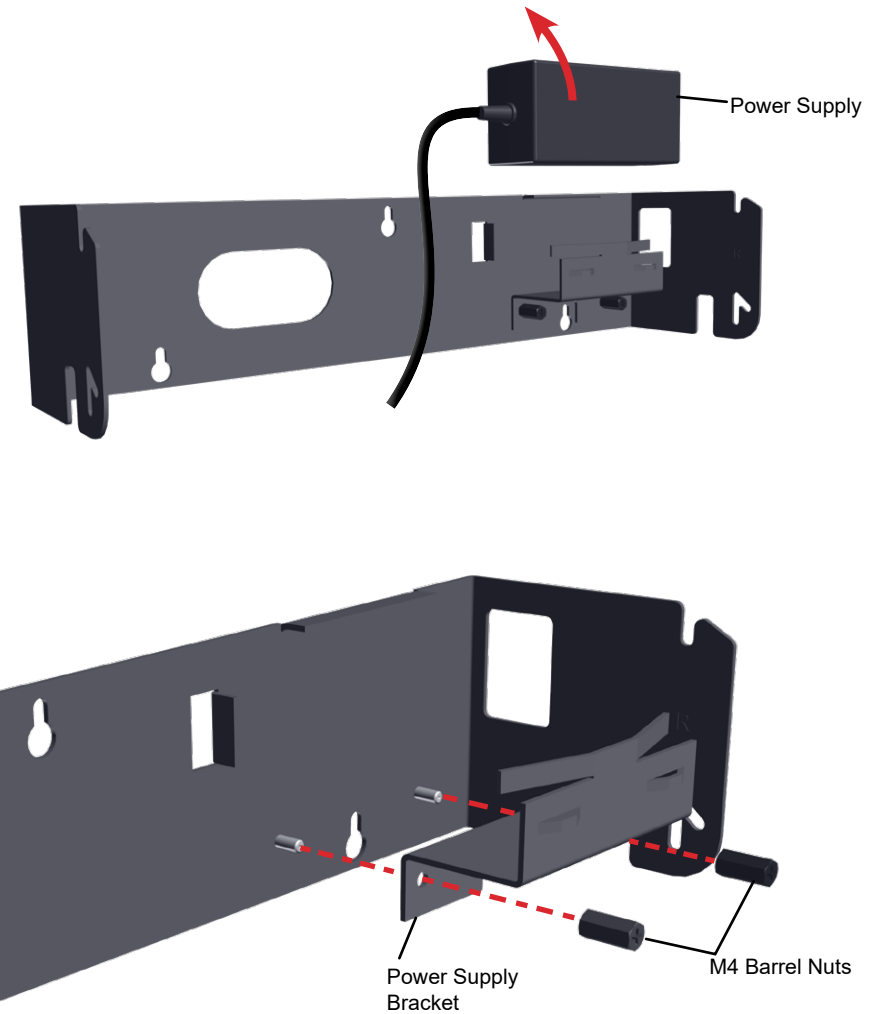

Figure 2. Remove power supply and bracket
2. Disconnect the power supply supporting bracket from the wall mount bracket (Figure 2).